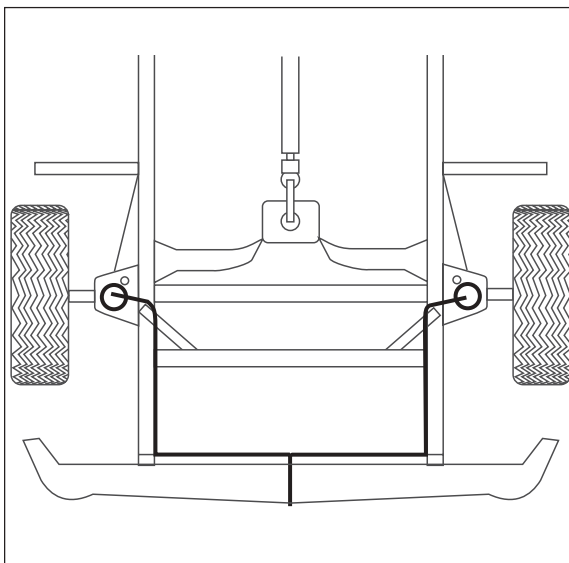

Figure 5
- h. Push the remaining air line over the last fitting on tee and route along frame to desired inflation valve location (Figure 5). Attach with plastic straps or wire.
- i. Select a location for inflation valve in the front bumper, fender flange or behind the license plate, assuring that the valve will be protected and accessible with an air hose (Figure 5).
- k. Slide air line clamp over the air line. Push air line onto fitting covering all barbs, with pliers slide the air line clamp forward until it fully covers the barbed section (Figure 5).